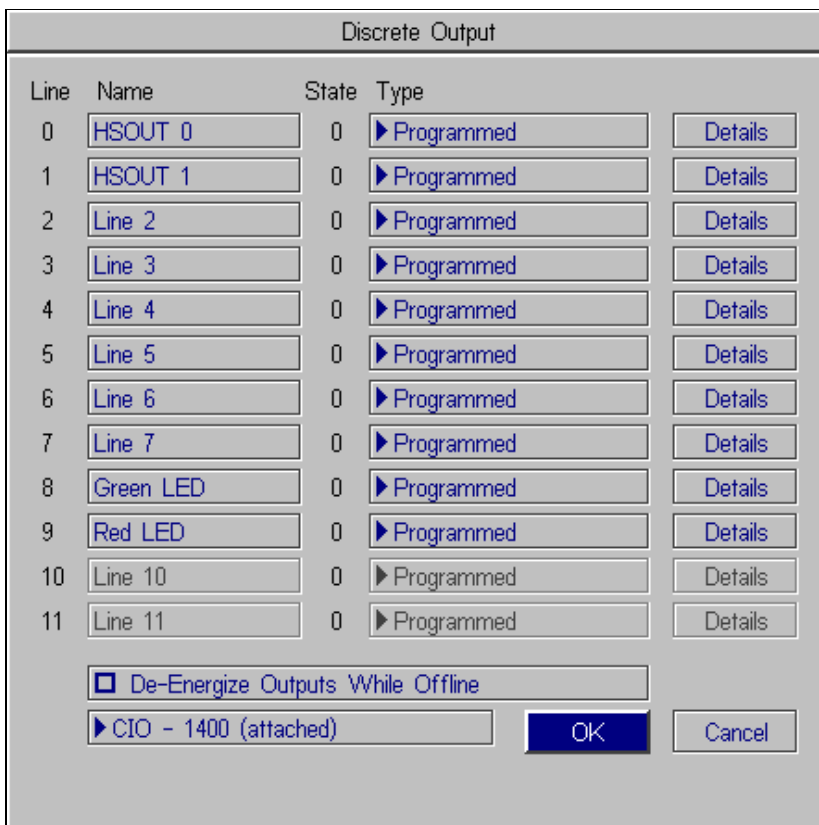

Figure B-4: Discrete Output Dialog, Expansion module Configuration
- Open the drop-down list to the left of the OK button and select CIO - 1400. The Discrete Output dialog will automatically reconfigure to correspond to the 1400 I/O Expansion Module, as shown in Figure B-4.